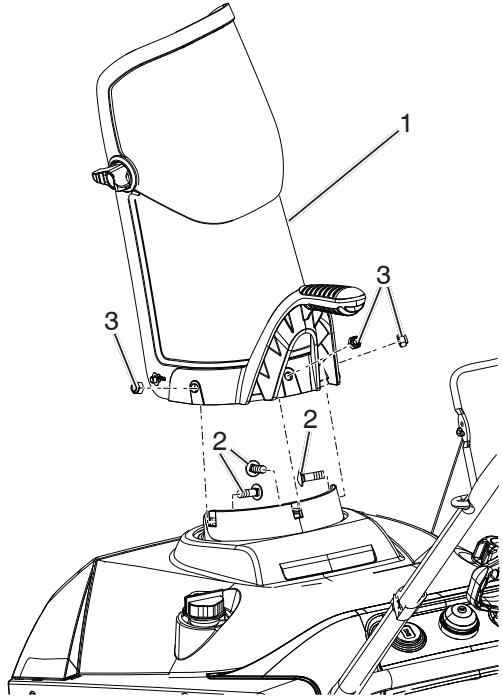

Figure 26
3. Remove the discharge chute and the discharge chute handle by removing the three carriage bolts and three flange nuts (Figure 26).
17. Install the discharge chute, and the discharge chute handle onto the snowblower using the hardware removed in step 3 (Figure 26).